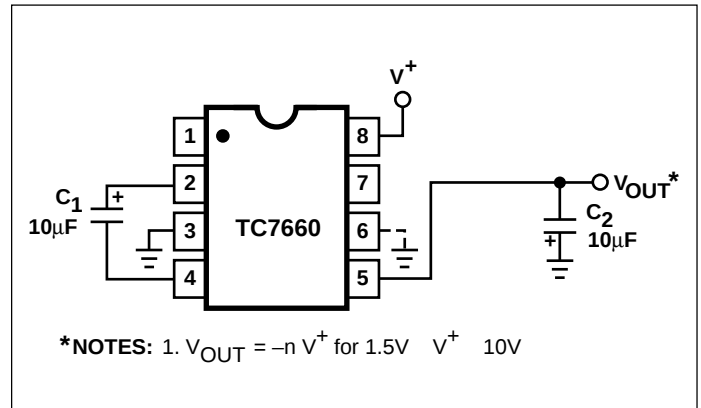
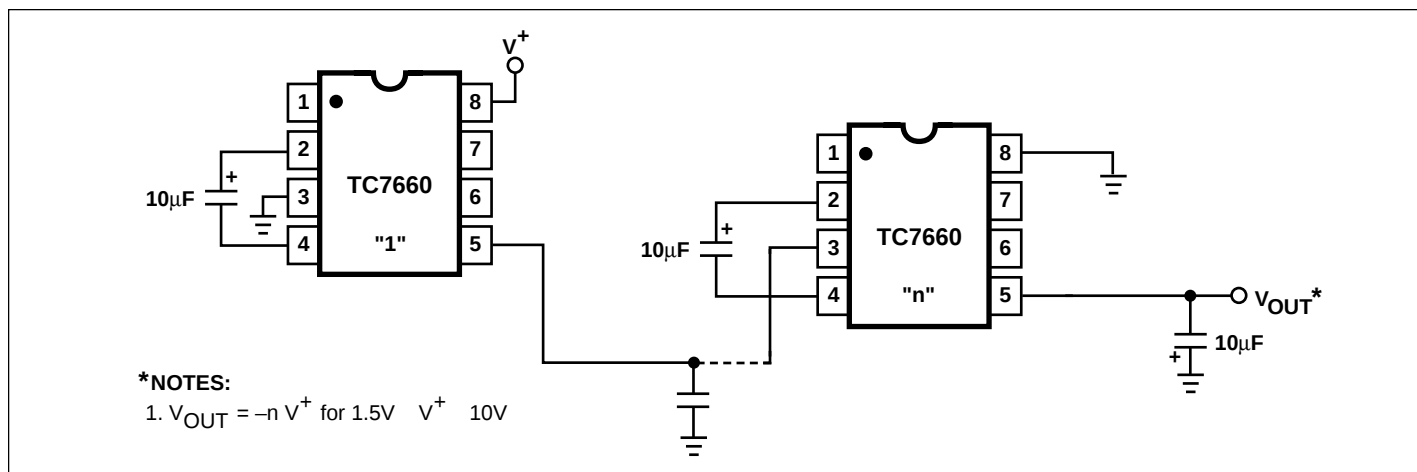
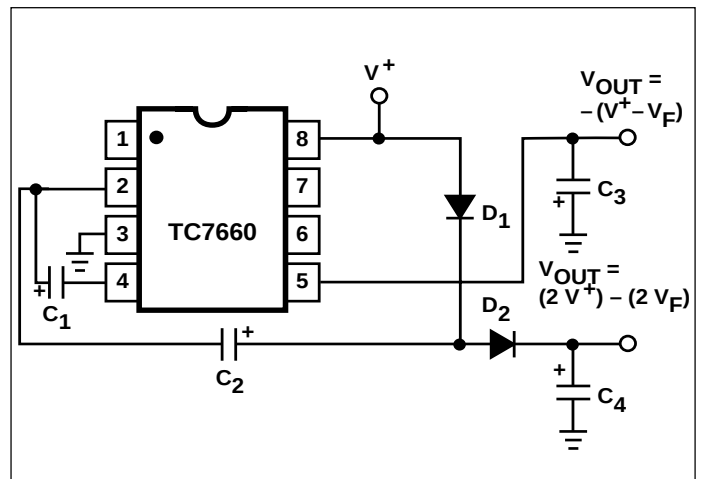
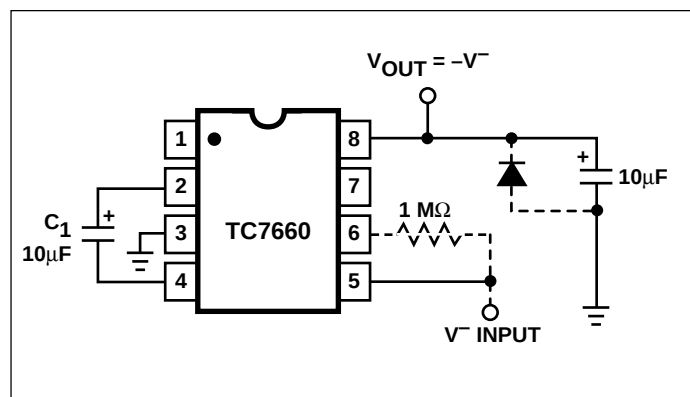

Figure 3. Simple Negative Converter
Figure 5. Increased Output Voltage by Cascading Devices
Figure 9. Combined Negative Converter and Positive Multiplier
Figure 10. Positive Voltage Conversion
Figure 3 shows typical connections to provide a negative supply where a positive supply is available. A similar scheme may be employed for supply voltages anywhere in the operating range of +1.5V to +10V, keeping in mind that pin 6 (LV) is tied to the supply negative (GND) only for supply voltages below 3.5V.
The output characteristics of the circuit in Figure 3 are those of a nearly ideal voltage source in series with  $70\Omega$ . Thus, for a load current of  $-10\text{mA}$  and a supply voltage of  $+5\text{V}$ , the output voltage would be  $-4.3\text{V}$ .
Figure 9 combines the functions shown in Figures 3 and 8 to provide negative voltage conversion and positive voltage multiplication simultaneously. This approach would be, for example, suitable for generating +9V and -5V from an existing +5V supply. In this instance, capacitors  $C_1$  and  $C_3$  perform the pump and reservoir functions, respectively, for the generation of the negative voltage, while capacitors  $C_2$  and  $C_4$  are pump and reservoir, respectively, for the multiplied positive voltage. There is a penalty in this configuration which combines both functions, however, in that the source impedances of the generated supplies will be somewhat higher due to the finite impedance of the common charge pump driver at pin 2 of the device.
Since the switches that allow the charge pumping operation are bidirectional, the charge transfer can be performed backwards as easily as forwards. Figure 10 shows a TC7660 transforming -5V to +5V (or +5V to +10V, etc.). The only problem here is that the internal clock and switch-drive section will not operate until some positive voltage has been generated. An initial inefficient pump, as shown in Figure 9, could be used to start this circuit up, after which it will bypass the other ( $D_1$  and  $D_2$  in Figure 9 would never turn on), or else the diode and resistor shown dotted in Figure 10 can be used to "force" the internal regulator on.
The same bidirectional characteristics used in Figure 10 can also be used to split a higher supply in half, as shown in Figure 11. The combined load will be evenly shared between the two sides. Once again, a high value resistor to the LV pin ensures start-up. Because the switches share the load in parallel, the output impedance is much lower than in the standard circuits, and higher currents can be drawn from the device. By using this circuit, and then the circuit of Figure 5, +15V can be converted (via +7.5V and -7.5V) to a nominal -15V, though with rather high series resistance (~250Ω).